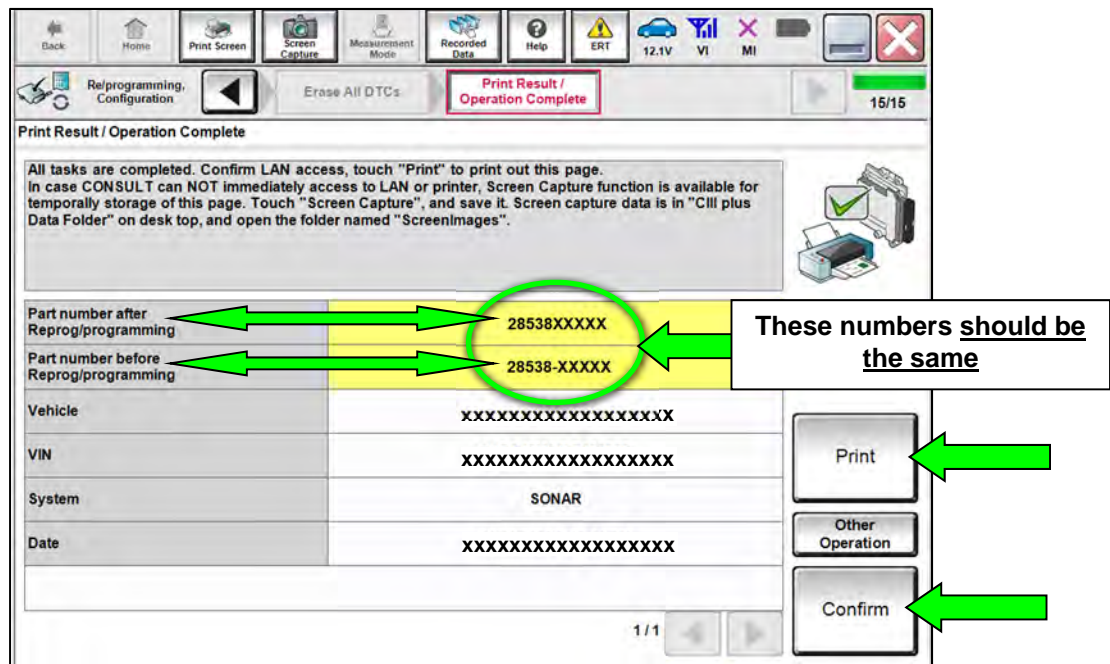

Figure 25
HINT: When the entire reprogramming process is complete, the screen in Figure 25 on page 17 will display.
40. Print a copy of the screen below (Figure 25) and attach it to the repair order for warranty documentation.